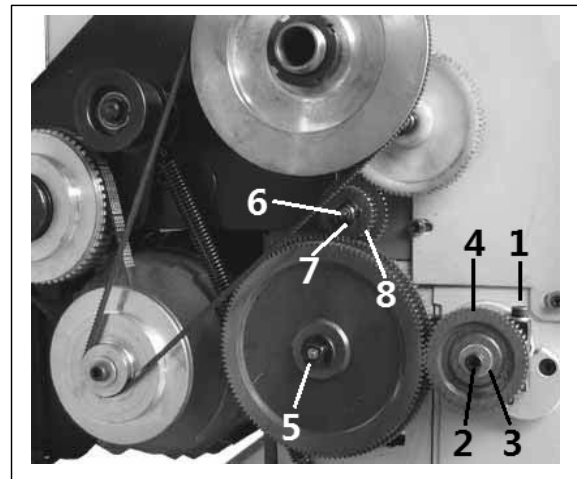

Figure 20
Example of Gear Set-up to Cut 10 T.P.I. (Figure 20)
1. Loosen bolt (1, Figure 20).
2. Loosen bolt (2). Remove washers (3) and gear (4).
3. Loosen bolt (5) to allow movement in the center gear position.
4. Loosen nuts (6). Remove washer (7) and gear (8).